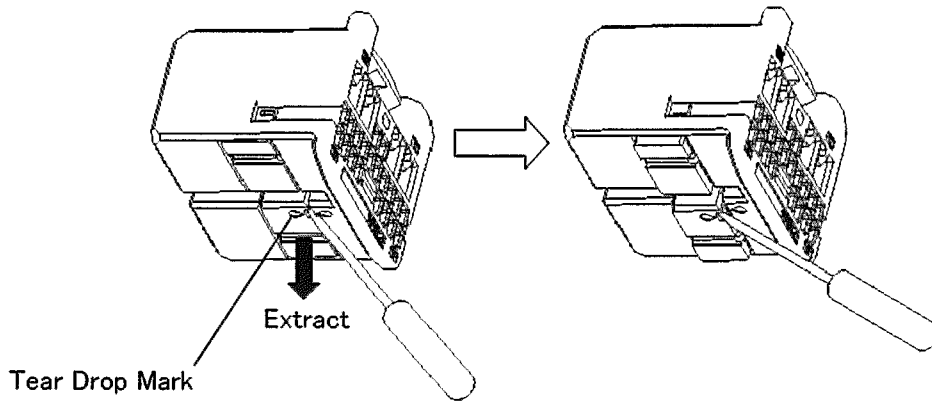

Fig.11
- (1) Insert the jig, 1mm blade screwdriver, into the window of the retainer pointed by the tear drop mark. See Fig. 11(next page).
- (2) Draw out the retainer, about 1mm, to pre-assembled condition. Confirm that all of the projection is unlocked. See Fig. 11(next page).